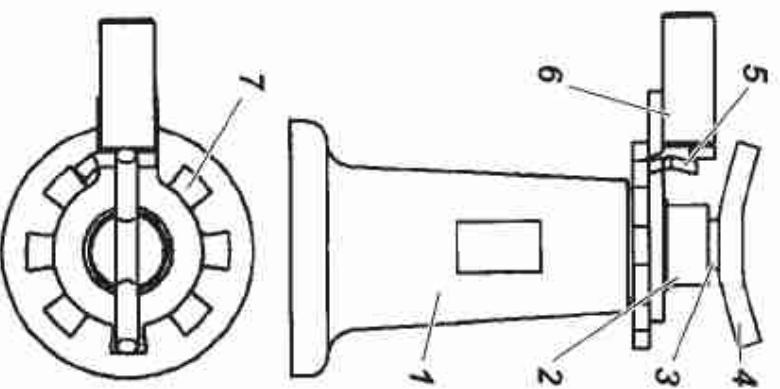
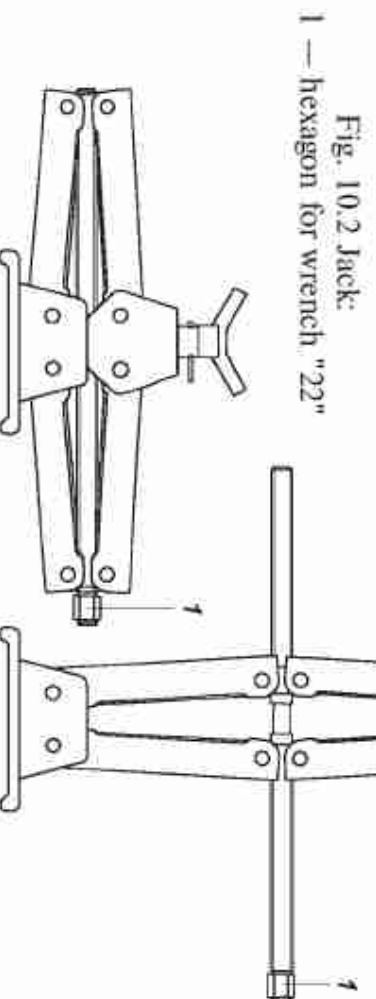

Fig. 10.1 Jack:
Fig. 10.2 Jack:
**Jack** (Fig. 10.1 or 10.2) is designed to jack up the vehicle wheels during its maintenance or repair. The jack load-lifting capacity is 2 tons. The maximum height of lifting shown on Fig. 10.1 — 240 mm, on Fig. 10.2 — 295 mm.
**For jacking up the wheel with jack shown on Fig. 10.1, proceed as follows:**
**For jacking up the wheel with jack as shown on Fig. 10.2, proceed as follows:**